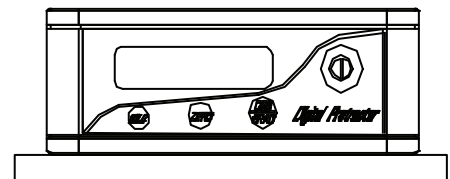

Figure 10
(1) Turn on the instrument and put it on a smooth and leveling surface as figure 10, notice the LCD display, wait 10 seconds till the displayed digits stable and record the angle value.